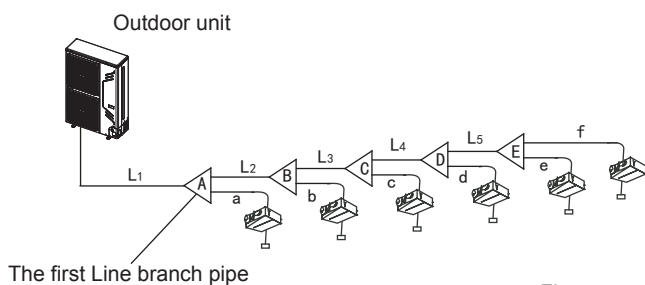
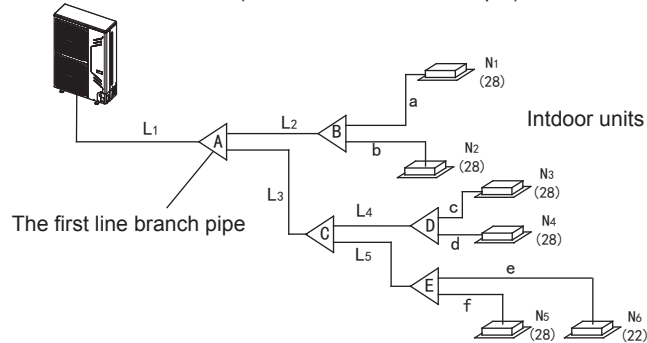
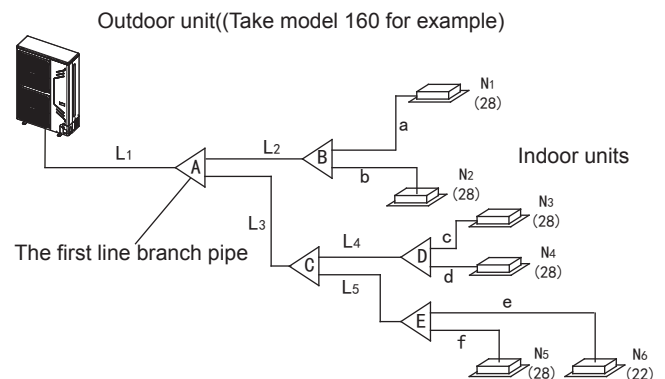
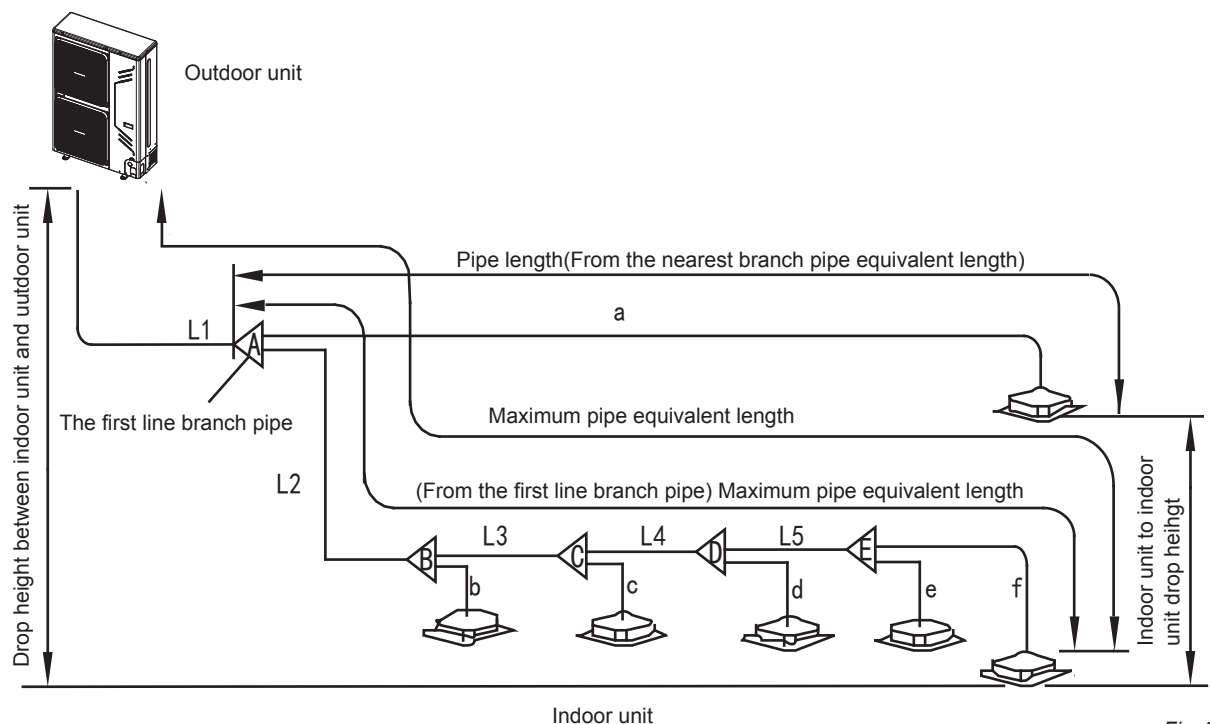

Fig. 4-4
Fig. 4-5
Fig. 4-6
Fig.4-7
- 2) Example 1 : In the Fig.4-5, The downstream inner units of the L2, and its total capacity is $28 \times 2 = 56$, refers to the Table 4-4, the air/liquid side of L2 is: $\Phi 15.9/\Phi 9.5$.
- Main pipe (Please refer to Fig.4-5 and Fig.4-7)
In Fig.4-6, the main pipe L1, the outdoor unit capacity is 16kW, and check the Fig.4-7 to get the size of gas pipe/liquid pipe is $\Phi 19.1/\Phi 9.5$, and aslo the total equivalent length of liquid side and gas side pipes is $>90m$, then check the Fig.4-4 to get the size of gas pipe/liquid pipe is $\Phi 22.2/\Phi 9.5$, and according to the maximum value principle, it should apply the $\Phi 22.2/\Phi 9.5$.